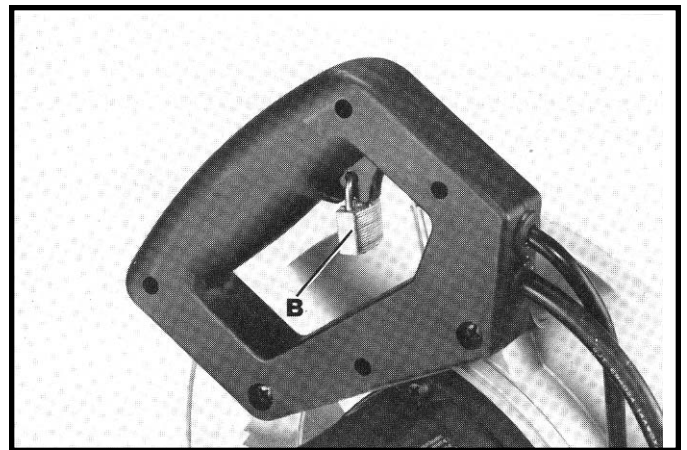

Fig. 14
IMPORTANT: We suggest that when the miter box is not in use, the switch be locked in "OFF" position using a padlock (B), as shown in Fig. 14.